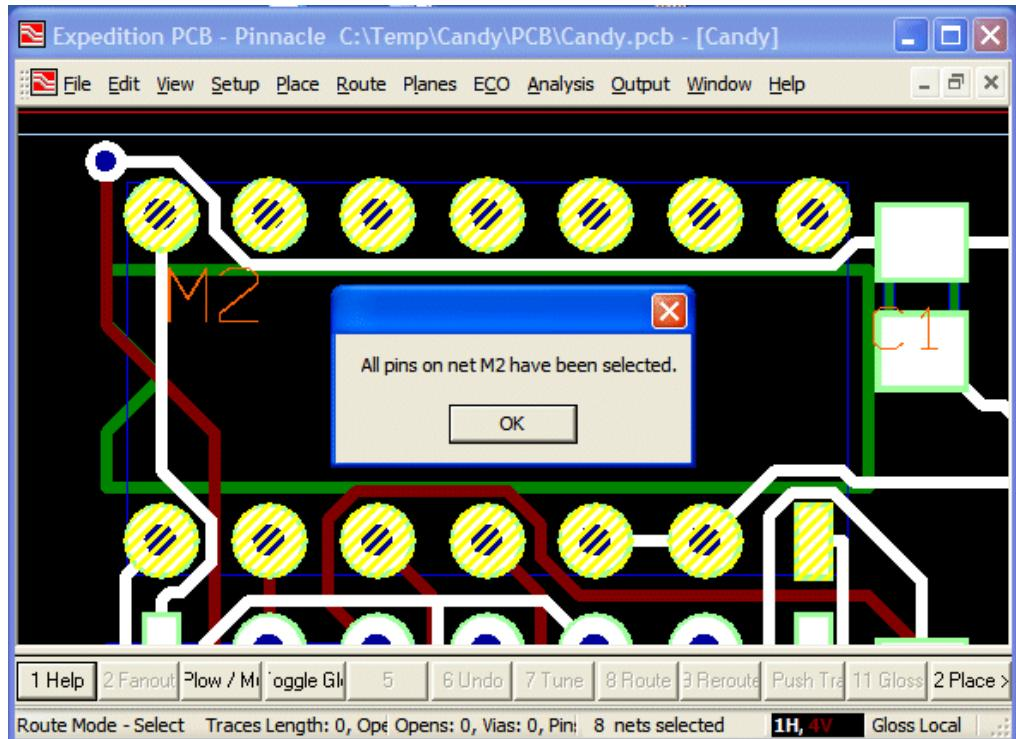

Figure 12-8. Result from Task #3 in the TraversePins.vbs script.
- 6) Click the **OK** button to accept and apply the "M2" component name and observe the results from **Task #3** (Figure 12-8).